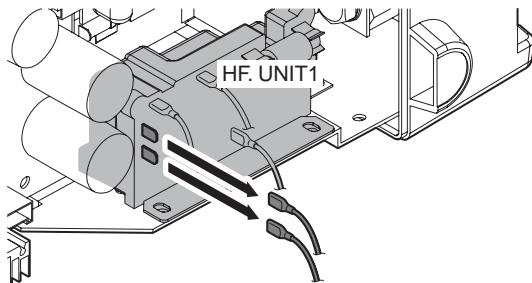

Figure 6-18: Removal and installation from the HF UNIT1
- 1) When in HF TIG mode, the unit will generate high voltage. To prevent personal harm and test equipment damage, mark and then remove the indicated wire from the HF UNIT1 shown in Figure 6-18. To prevent electric shock, always wrap the removed wire with electrical tape or other suitable insulation.